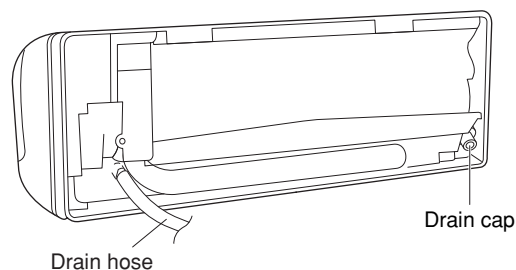

Fig. 39a
- (a) Locate the drain hose and the drain cap. (Fig. 39a)
- (b) Remove the screws fastening the drain hose on the right side, and pull out the drain hose to remove it. (Fig. 39a)